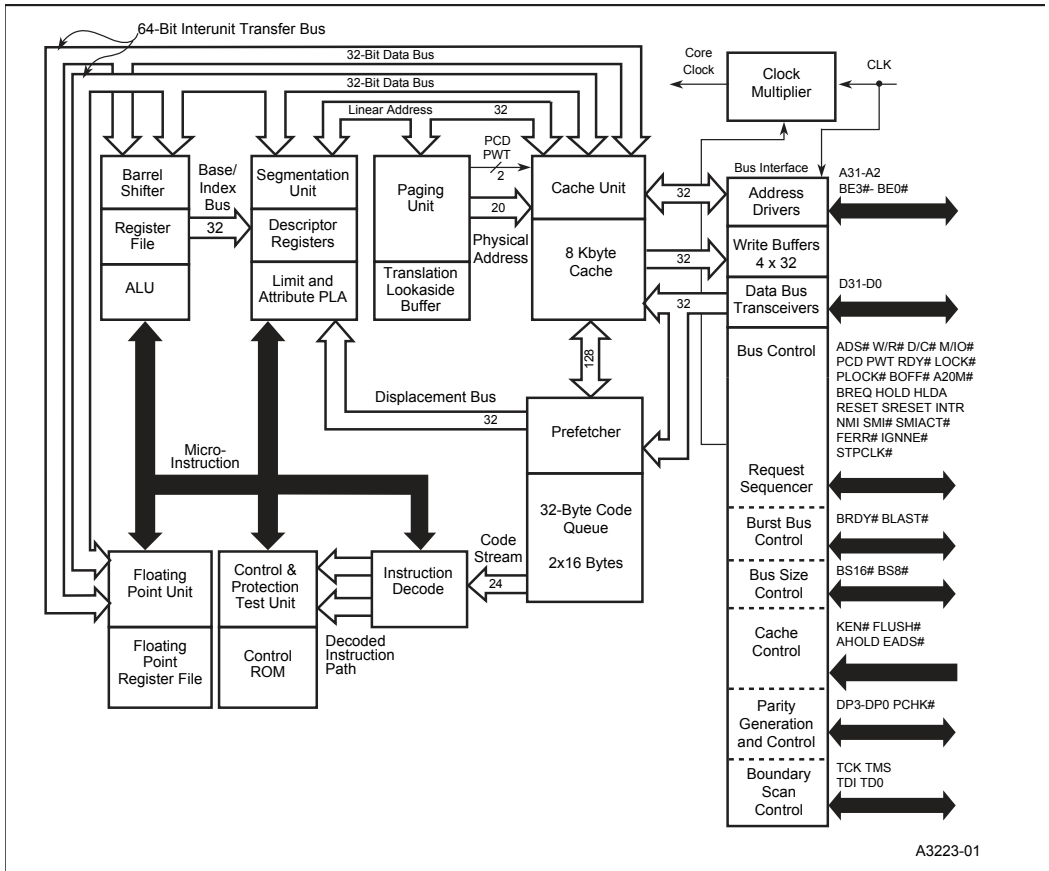

Figure 1. Embedded Intel®**DX2™** Processor Block Diagram
- Figure 1. Embedded IntelDX2™ Processor Block Diagram i